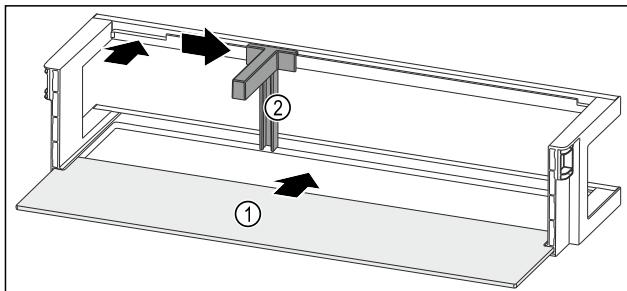

Fig. 88 Door racks with shelf
- Push the shelf Fig. 88 (1) into the side cutouts.
- Insert the bottle holder Fig. 88 (2) into the recess.
- Push the bottle holder Fig. 88 (2) to the side into the desired position.